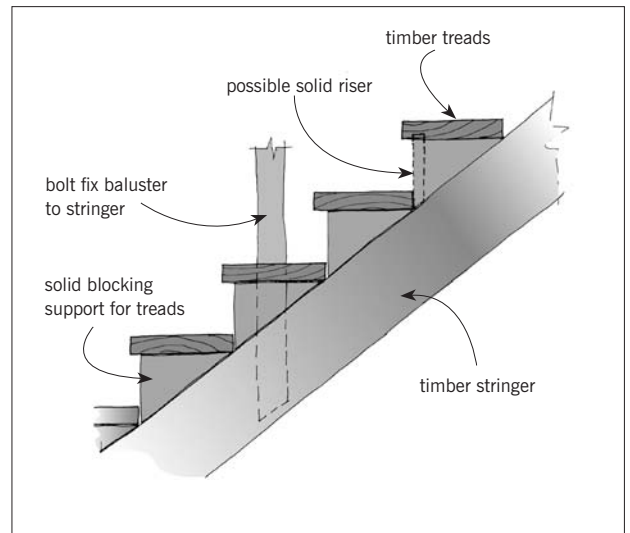

Figure 4. Timber stair using block supports to treads
6.0.1 More secure fixings can be provided for the treads by fixing solid blocking (Figures 4 and 5). One advantage of this construction is that the stringer can be laminated, or be sized by specific engineering design to allow for greater spans. It is important where the stair is exposed to the weather that all timber and fixings used in the construction meet appropriate durability requirements.
6.0.4 Open treads are not suitable where the stair may be used or accessed by the public. Solid risers are able to be fitted as shown in Figure 4.